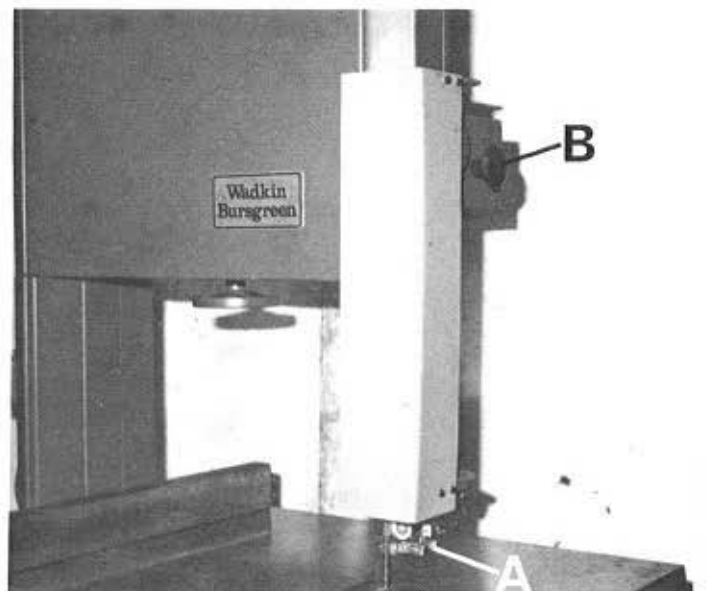

FIG 16
2. Hold guide assembly "A", FIG.16, then loosen handwheel "B".